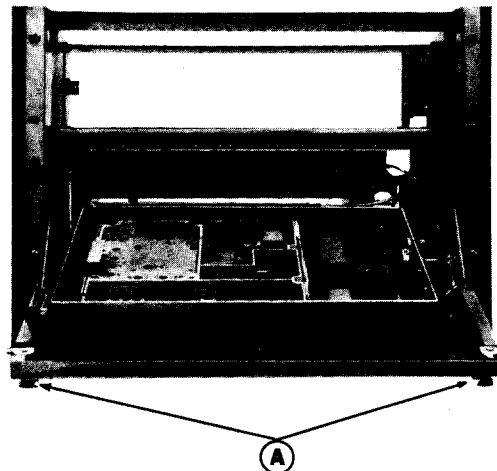

Figure 2 - Access to Station Exciter Front View
1. Turn the two latching knobs (A) counterclockwise to unlatch the Radio Panel Front Door. Refer to Figure 2.